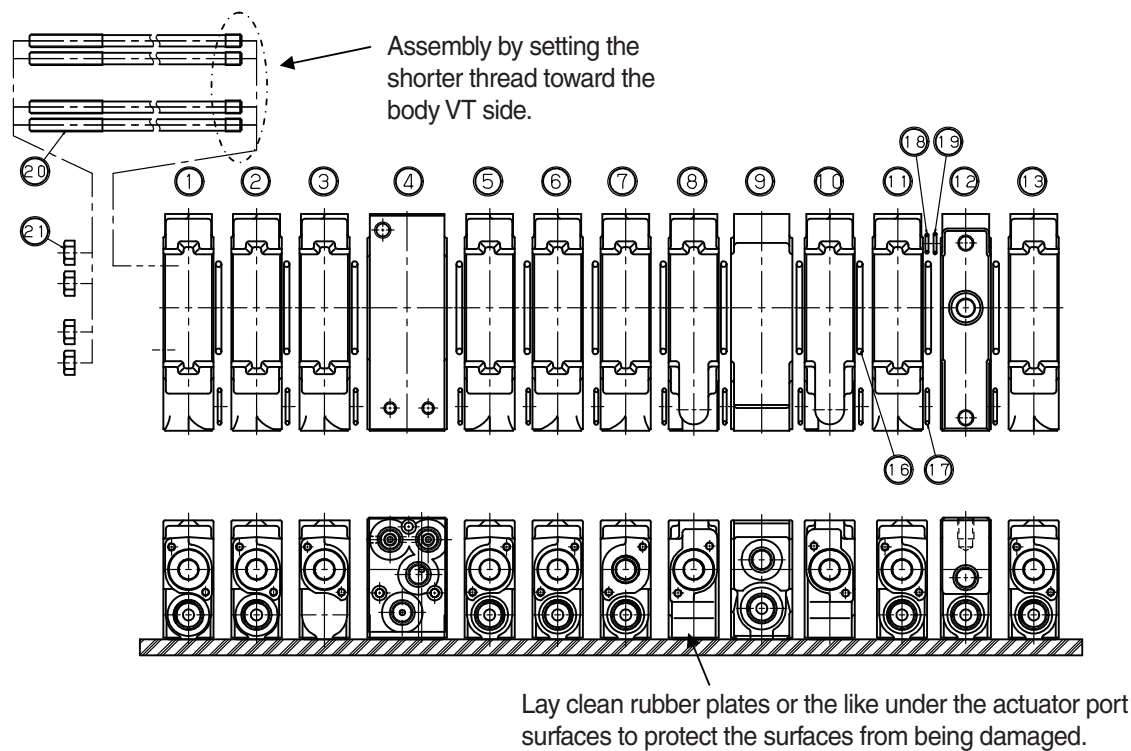

Fig.15 Body assy
##### (1) Assembling body work (see figure 15 and 16)
- ① On a surface plate with clean rubber plates on it, place component bodies with actuator port surface facing downward in the order shown in "Orders of assembling bodies" on the next page.
- ※ Check the matching surface in each component body for dust or the like, and check whether O-rings (⑬~⑭) shown in the specifications and drawings are surely put in each groove for O-ring. Kinked O-ring could cause the leakage of hydraulic fluid to the outside due to the malfunction of sealing performance.